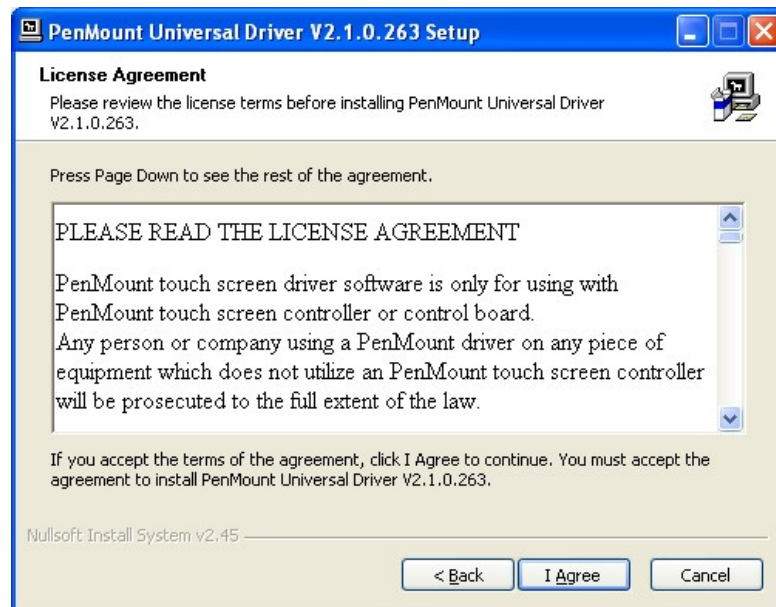

Figure 7-18: Touch Screen Driver License Agreement
Step 6: The **License Agreement** shown in **Figure 7-18** appears.